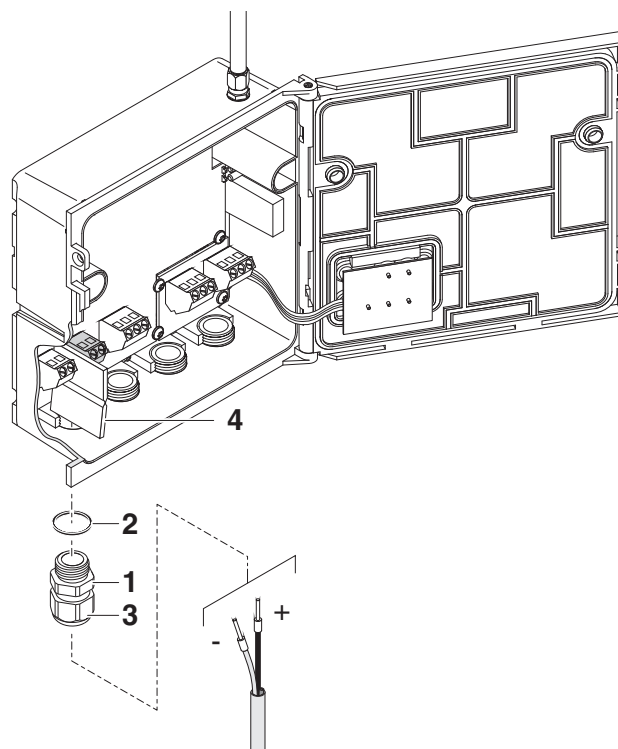

Fig. 3-15 Inserting the 24 V DC line.
- 5 Screw a cable gland (pos. 1 in Fig. 3-15) with sealing ring (pos. 2) into the enclosure below the 24 V DC connection.
- 6 Loosen the coupling ring (pos. 3).
- 7 Feed the 24 V DC line through the cable gland into the enclosure. When doing so bend the flexible divider (pos. 4) to the left.